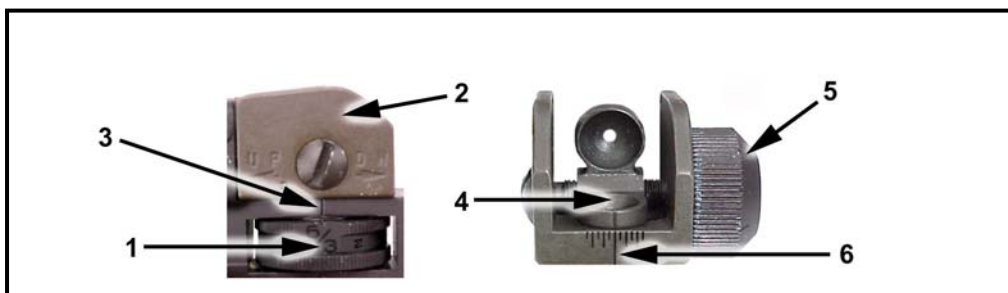

Figure 2-13. M4/M4A1 and M4 MWS battlesight zero.
(2) **Battlesight Zero the M4/M4A1 and M4 MWS.** If necessary, the soldier should battlesight zero the weapon as follows (Figure 2-13):